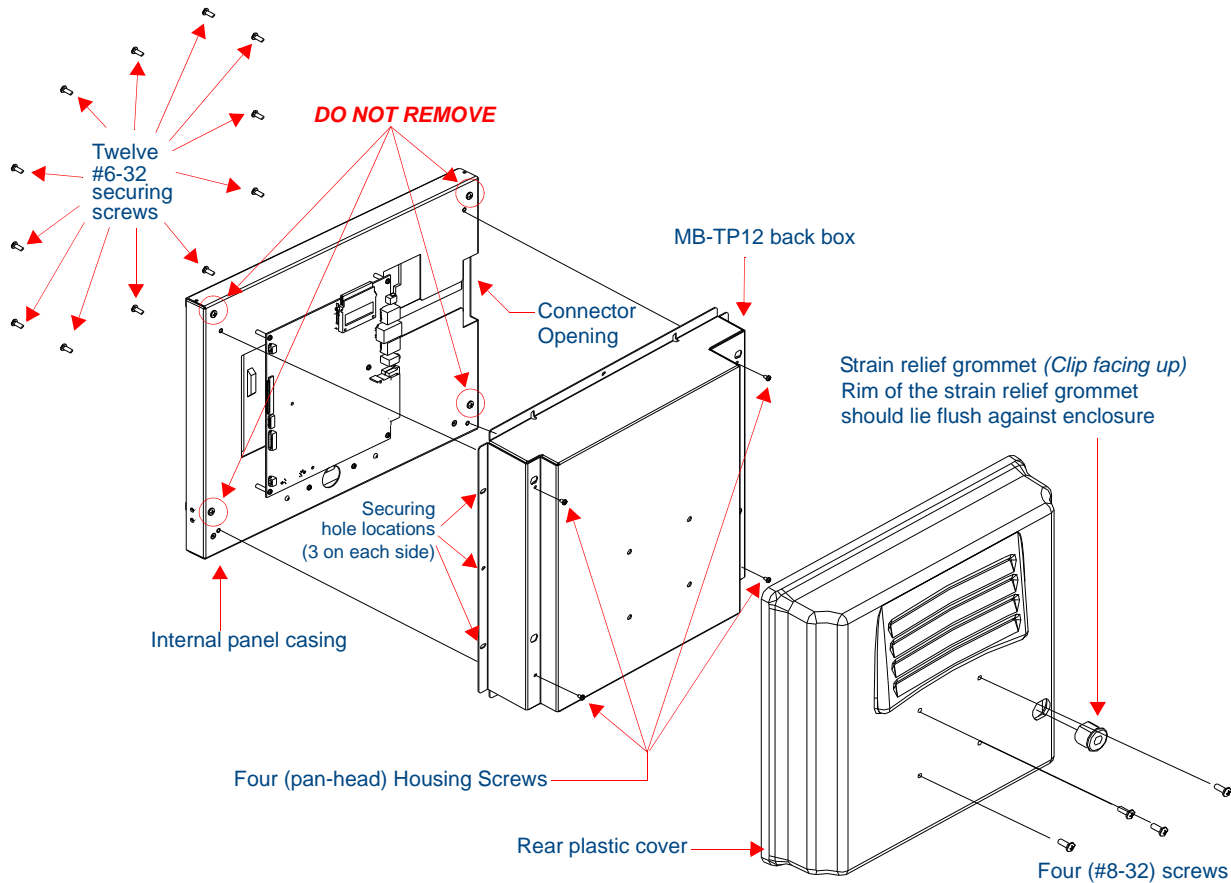

FIG. 34 Location of the attachment screws on the NXD back box and VESA housing
3. Re-install and secure the four pan-head Housing Screws into their pre-drilled holes along the edges of the MB-TP12 back box (FIG. 34) and secure them using a grounded Phillips-head screwdriver.
2. Thread the incoming cables through the strain relief grommet opening on the rear plastic cover (FIG. 34).
5. Firmly push the Strain Relief Grommet into the opening (toward the inside) until the rim is securely flush against the back of the rear plastic cover (FIG. 34).
8. Insert and secure the twelve #6-32 securing screws into their pre-drilled holes along the edges of the NXD unit (FIG. 34). This step secures the NXD unit to the rim of the rear plastic cover.
9. Align a VESA mount connector (purchased separately) to the four #8-32 screw holes on the back of the rear plastic cover (FIG. 34).